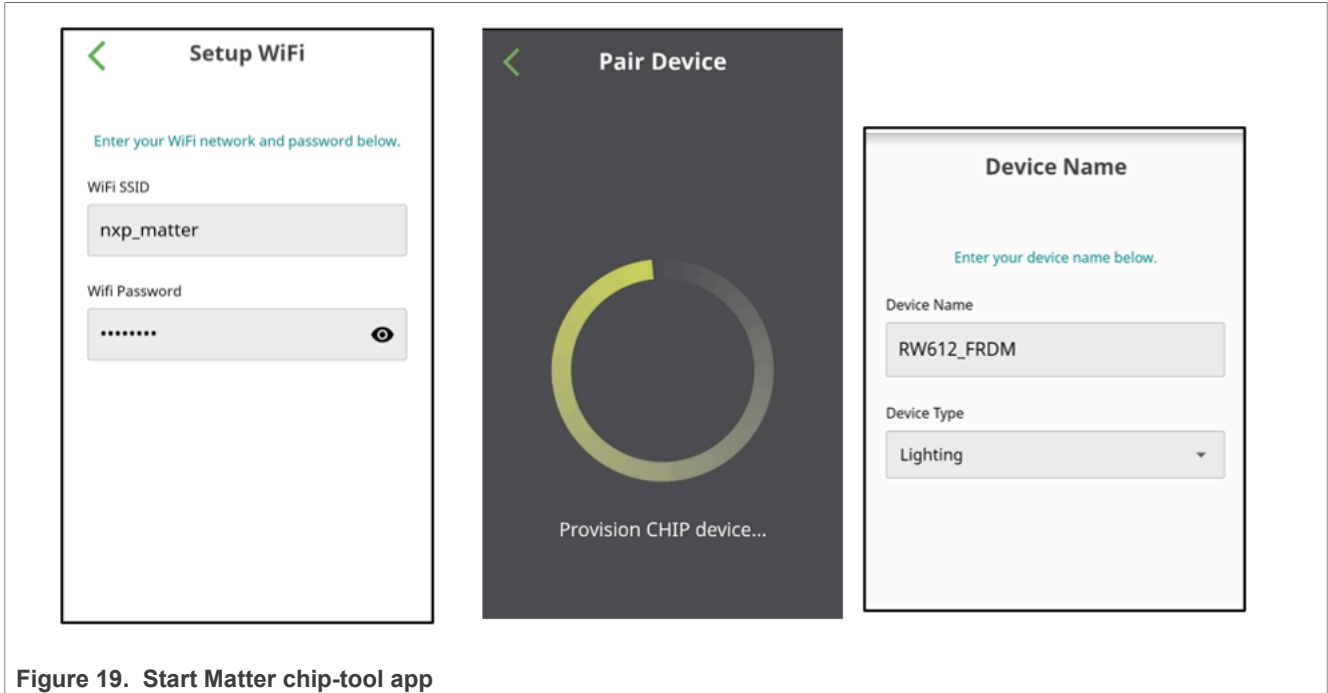

Figure 19. Start Matter chip-tool app
3. Enter your Wi-Fi SSID and password. After pairing is successful, enter the device name as shown on Figure 19.